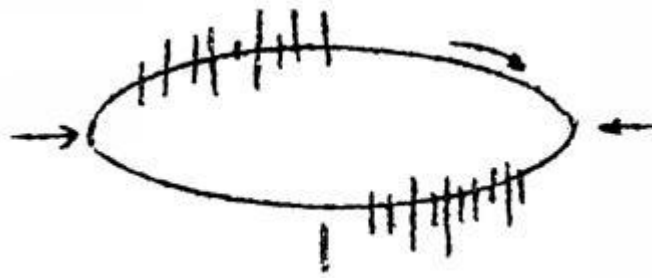

Figure 5
(1) Typical internal bubble partial discharge (see Figure 5), waveform characteristics: a discharge is mainly shown in the test voltage from zero to peak within two elliptical phase limits. B when the initial voltage U_I , the discharge usually occurs near the peak value. When the test voltage exceeds U_I , the discharge extends to the zero position. C the discharge times and amplitudes of the two opposite half cycles are approximately the same (the maximum difference is 3:1). The discharge waveform can be distinguished. There are several situations: 1) if the discharge amplitude increases with the increase of